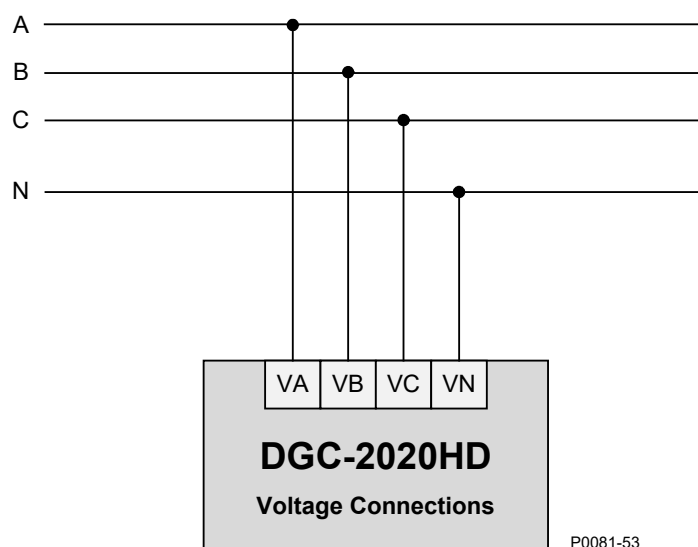

Figure 3-2. 3-Phase Wye Bus Voltage Sensing Connections
- Three-phase wye Figure 3-2
Although three-phase wye sensing connections are shown in the breaker control diagrams, other bus voltage sensing configurations (figures 3-2 through 3-5) may be used instead.